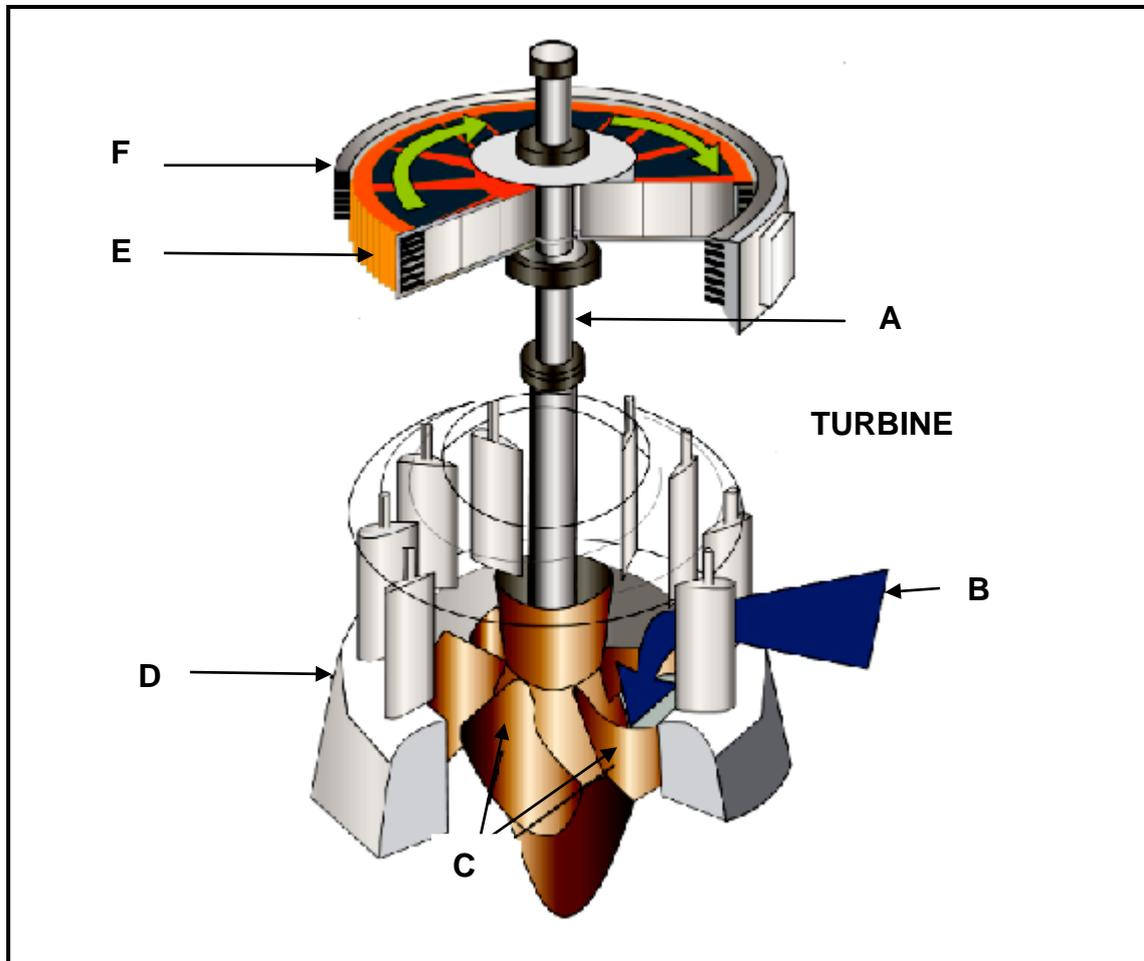

FIGURE 10.1
10.1 FIGURE 10.1 shows a water turbine driving a generator. Answer the questions that follow.